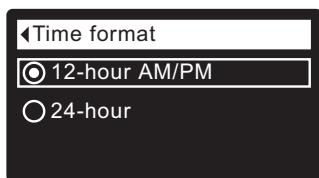

FIG. 57
1. From any of the rolling status screens, press the SELECT (O) button to display the **Main menu**.
3. Press the SELECT (O) button to display the User preferences menu.
5. Press the SELECT (O) button to display the Time format menu (See Figure 57).
6. If the desired time format already has a dot next to it (See Figure 57), go to Step 7. Otherwise, press the DOWN (▼) or UP (▲) buttons to scroll to the other time format, then press SELECT (O) to choose it.
7. Press the SELECT (O) button. The display will go back to the User preferences menu.